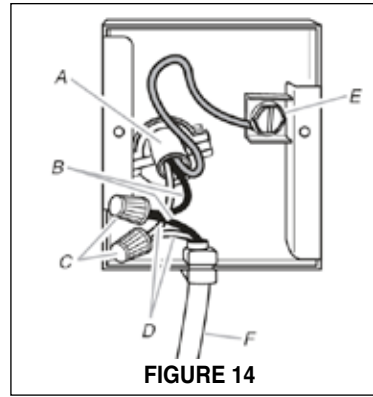

FIGURE 14
2. Connect the Power Supply Cable to the rangehood. (**FIGURE 14**) Attach the White lead of the power supply (A) to the White lead of the rangehood (D) with a twist-on type wire connector. Attach the Black lead of the power supply to the Black lead of the rangehood (B) with a twist-on type wire connector (C). Connect the Green (E) (Green and Yellow) ground wire under the Green grounding screw.
Le panneau de commandes est situé sur le moyen sous la hotte. La position et la fonction de chaque bouton sont indiquées à la (FIGURE 14)